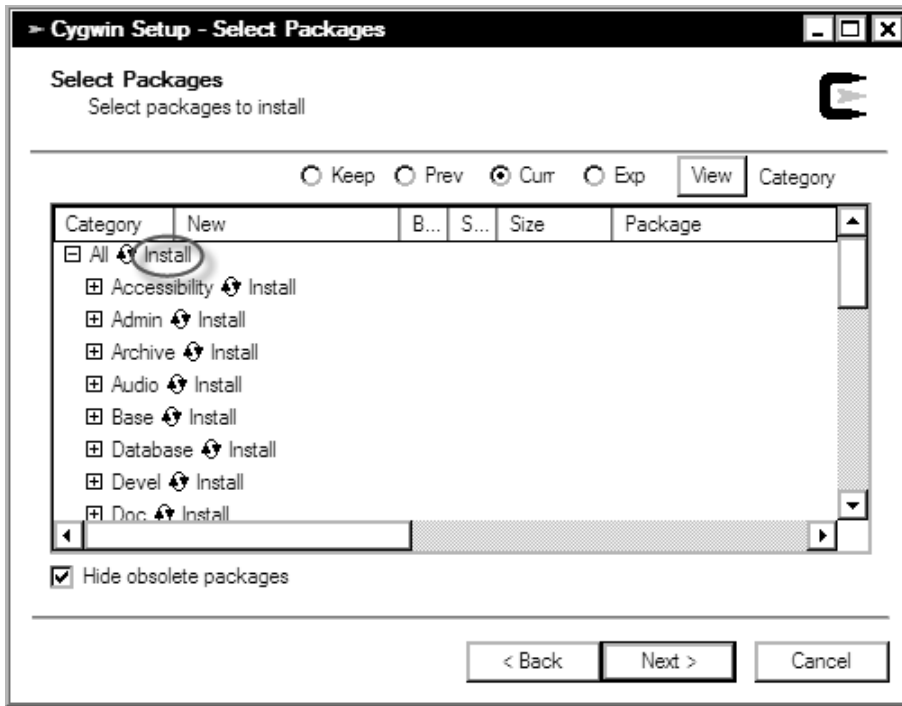

Figure 2-10. *Cygwin installation: picking what packages to install*
14. On the next page, click the Default label next to All to install all the packages (see Figure 2-10).